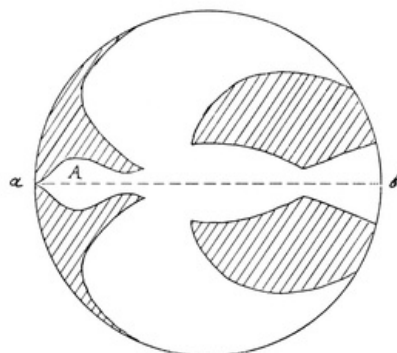
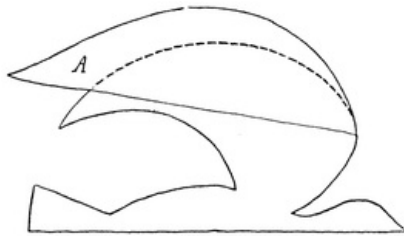

FIG. 476
FIG. 477
In making one's first glider one cannot do better than copy a bird. On a piece of paper draw a circle, fold it in half, draw a bird on one half, as in Fig. 476, cut it out, when the paper is opened it will appear as in the figure. If this bird is thrown head first toward the ground, it will probably fall. If two little bits of cardboard are gummed on each side of his head, he will make a better flight and land on the ground after making a gentle curve. A still better bird may be cut from cardboard, a half cut is then made along a b to bend it, and the head is weighted with sealing-wax. How well this bird flies depends on the weight, and to some extent on the shape of the bird. Birds of various shapes and with different amounts of sealing-wax should be tried, until one is made that glides to the ground in a long, graceful curve.
(2) If the head in Fig. 476 is not long enough for a graceful flight, a longer head cut from cardboard can be pasted on.
(3) If the bird dives quickly down head first, you know that the head is too heavy, or the neck too long.
(4) If the bird rises and then falls the head is too light and probably not long enough.
(5) The wings can be made larger if necessary by the addition of tissue-paper wings gummed on as A in Fig. 477.